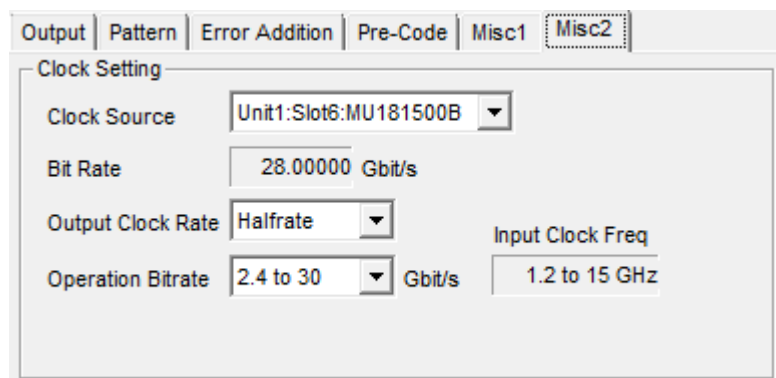

Figure 3.3.2-1 Clock Source Settings
2. In the MU183020A screen, select a bit rate range of data to output from the Operation Bitrate drop-down list. For the example in Figure 3.3.2-1, select **2.4 to 30 Gbit/s** to output 28Gbit/s data.
3. To the Ext Clock Input connector of the MU181500B, input the clock of the frequency displayed in the **Input Clock Freq** box in the MU183020A screen. For the example in Figure 3.3.2-1, 14 GHz clock is input to output 28 Gbit/s data.